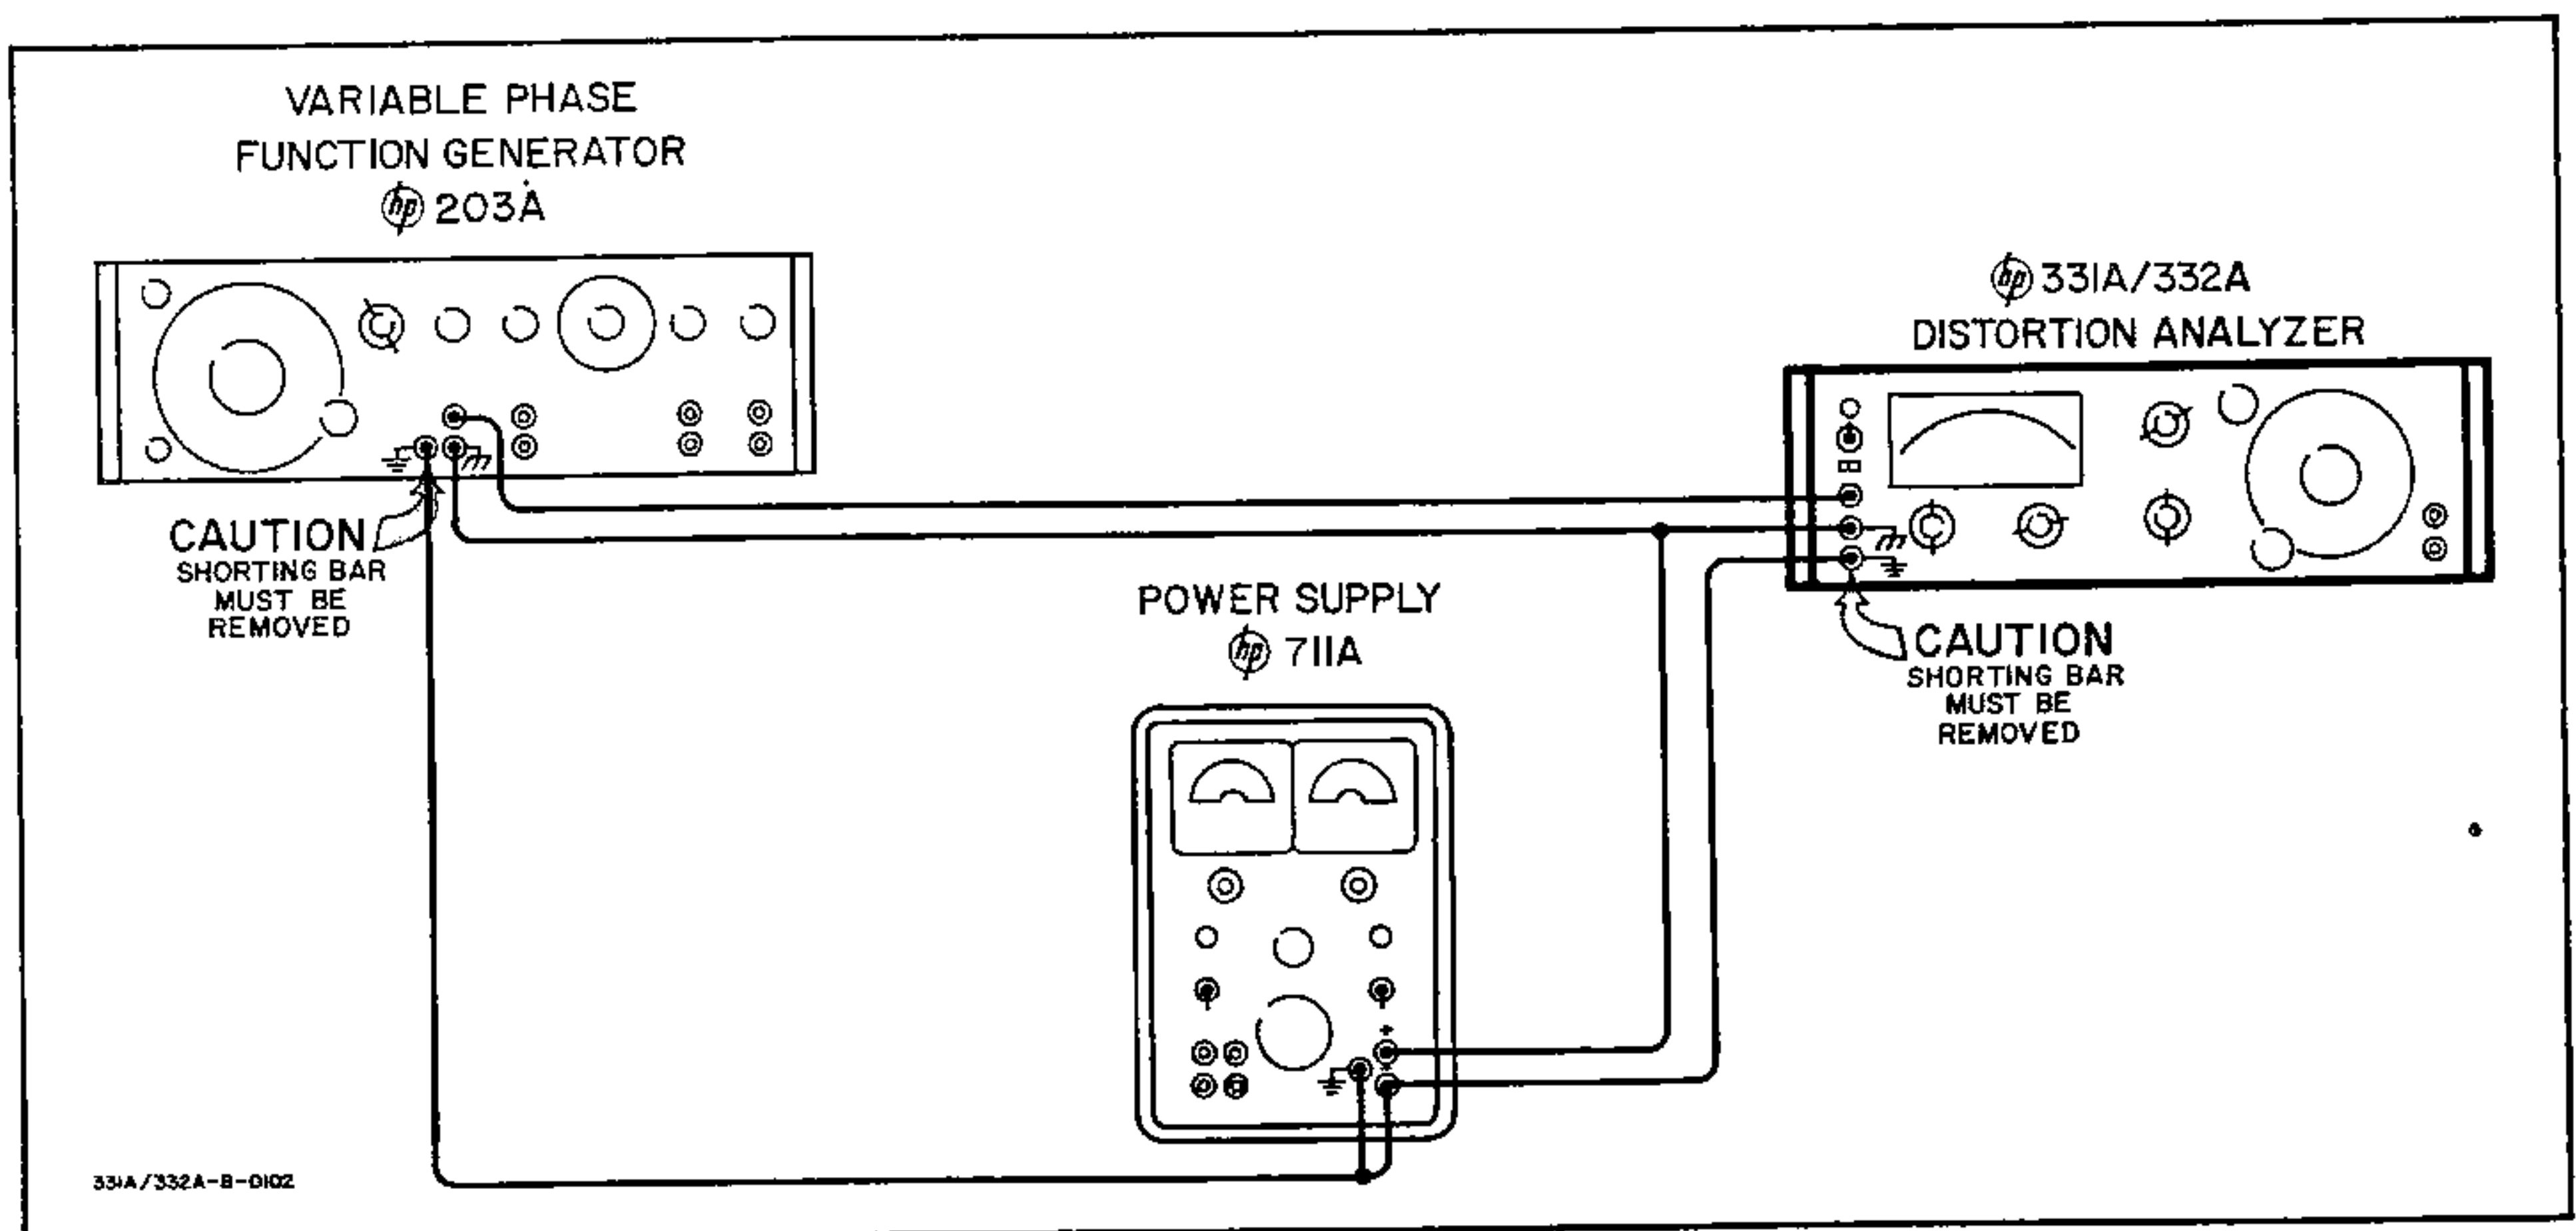

Figure 5-5. Test Setup for DC Isolation Check
- a. Connect 331A/332A as shown in Figure 5-5.